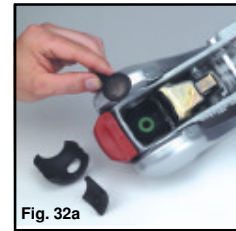
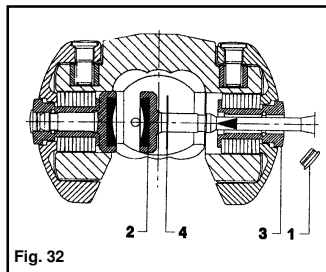

Fig. 32a
Fig. 32
- 2) Remove protective caps (Fig. 32/ Item 1) with the aid of a small screwdriver.
- 3) Press worn out pad inwards and remove (use punch and hammer) (Fig. 32/2)
- 4) Insert new friction pad from below (after first re-inserting shim washers if they were present) and press in as far as it will go (Fig. 32/Item 4 & Fig. 32a).